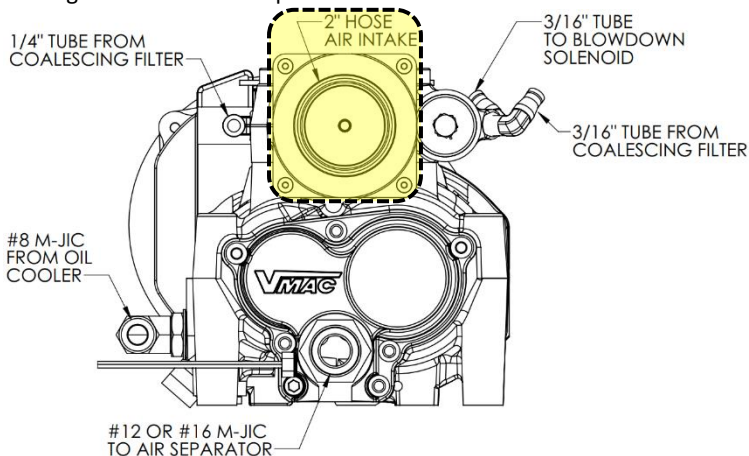

Figure 10 – Air Intake Filter Connection
- Option 1: If installing the local air intake filter, install the filter to the compressor air intake located at the top rear of the air compressor (Figure 10).
- Option 2: If installing the remote air intake filter package, slip the hose over the compressor air intake located at the top rear of the air compressor (Figure 10) and tighten the hose clamps.